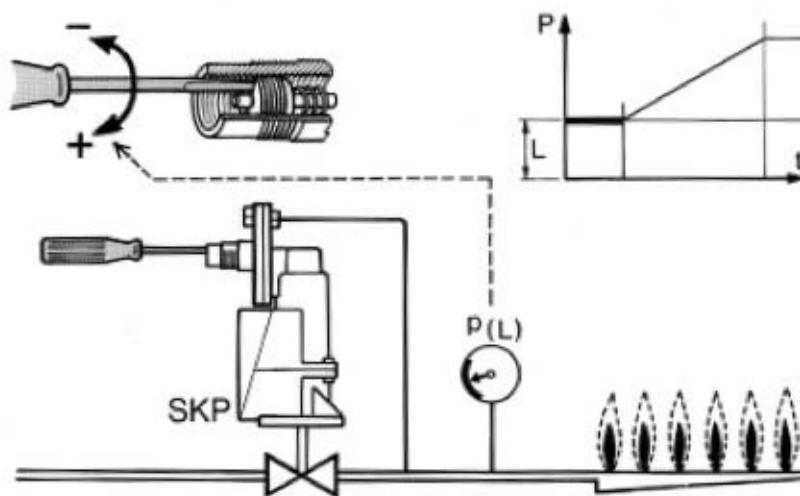

FIGURE 1
4. With the main burner on, set the full fire gas pressure to 0.92kPa by adjusting the regulator screw on the SKP27. (refer to figure 1)
4. With the main burner on, set the low fire gas pressure to 0.12kPa by adjusting the outer regulator screw on the SKP27. (refer to figure 1)